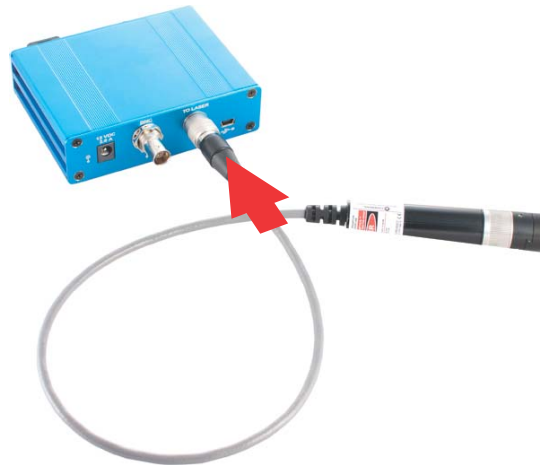

Figure 2-23. Connect Laser with Hirose Connector to Remote
3. Plug in the laser to the Remote using the mating Hirose connector, as shown in Figure 2-23.